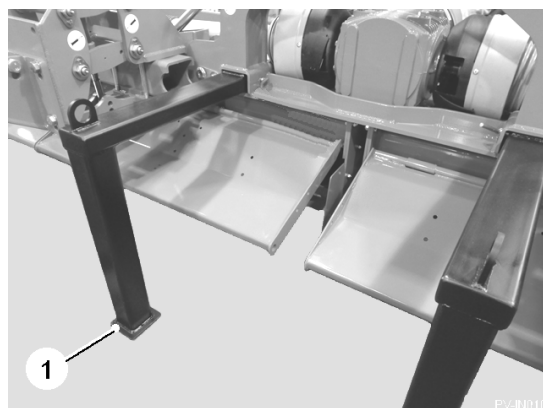

Fig. 2
Lift the machine and remove the parking stands (item 1, fig. 2). Refit the stands in the inverted position for storage.
1. Lift the machine and rotate the stands (item 1, fig. 2) into the parking position.